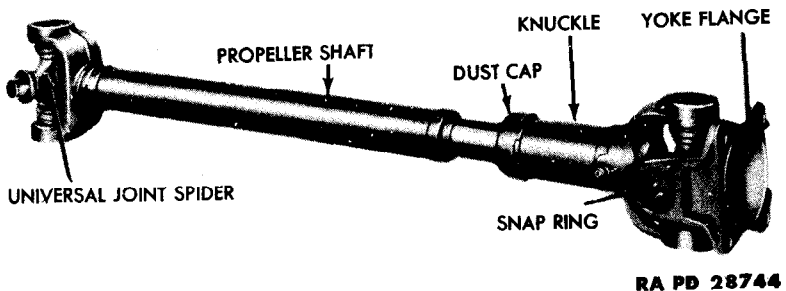

Figure 31 — Rear Propeller Shaft
(1) **REMOVE YOKE FLANGE** (fig. 31). Place the propeller shaft in a vise. Remove the four snap rings that secure the spider bearings in the yoke flange and knuckle. Using a brass drift with a flat face about $\frac{1}{32}$ inch smaller than the hole in the yoke, drive lightly on the end of the bearing until the opposite bearing is out of the yoke flange. Turn the assembly over in the vise and drive the first bearing out of its lug by driving on the exposed end of the spider. Remove the yoke flange from the spider.